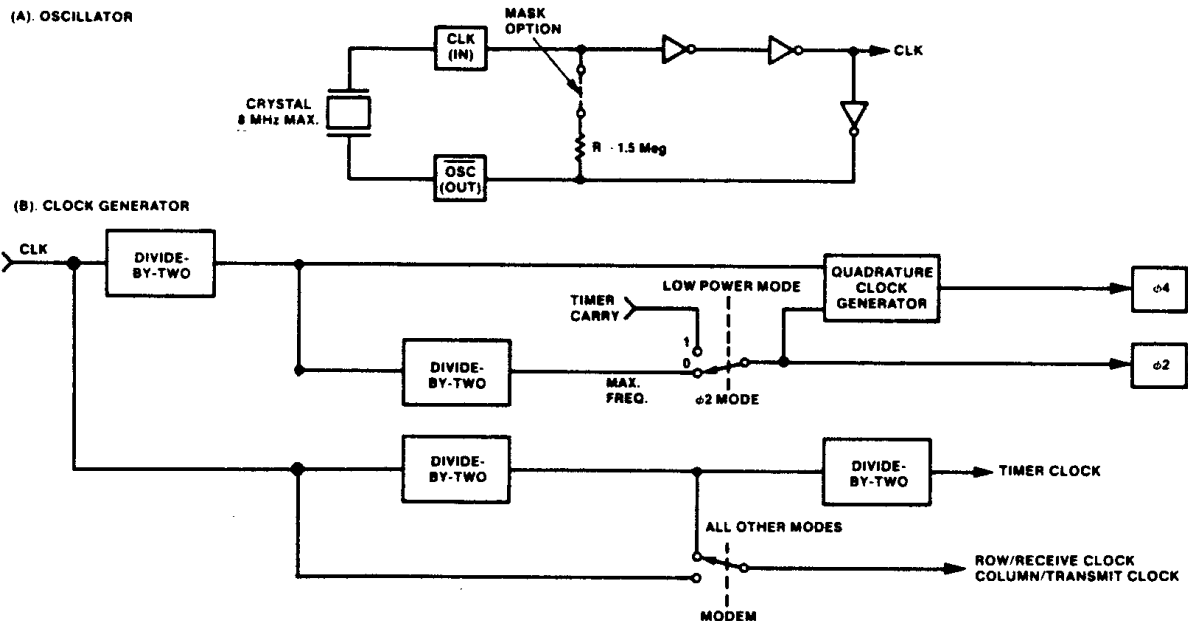

Figure 5. Clock Functional Block Diagram
shown in Figure 5. The circuits are described in the following three paragraphs:
**Phase 2 Mode Select—Phase 2, Bit 3**—This mode controls the frequency at which the microprocessor oscillator operates. Refer to Figure 5, Clock Functional Block Diagram.